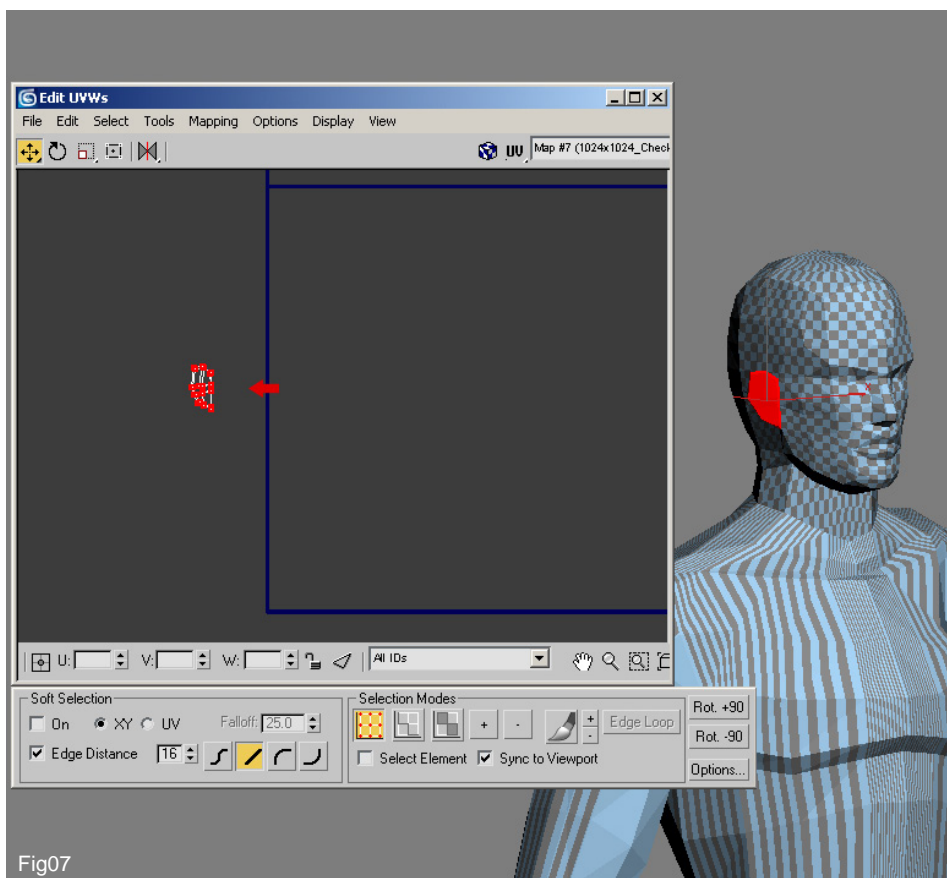

Fig07
7. The next thing to do is map the outer faces of one of the ears. The way to do this is first apply an Edit Mesh modifier on top of the Unwrap UVW and then select the necessary poly's in sub object mode and apply another UVW Mapping modifier. In the left or right viewport click on Planar under the mapping parameters, expand the gizmo as before and then click on the View Align tab. This aligns the gizmo with the view and if you wish you can use the rotate tools to better align it with the selected faces if they are not perpendicular (which they will not be) using the top view as a guide. You can then click on Bitmap fit and select the checker map and proceed by applying another UVW Unwrap modifier. It is a good policy to move any unwrapped geometry outside of the blue template square as all the geometry will inhabit this area by default otherwise when you unwrap the entire mesh you will have all the separate elements overlapping one another inside the template. (Fig 07) You can also move the mapped faces before you unwrap them as the gizmo itself represents the template shape and so if you move this in the viewports once you have applied the planar map the UVW's will appear outside the blue square when you unwrap them. It is entirely up to you which way you do things.